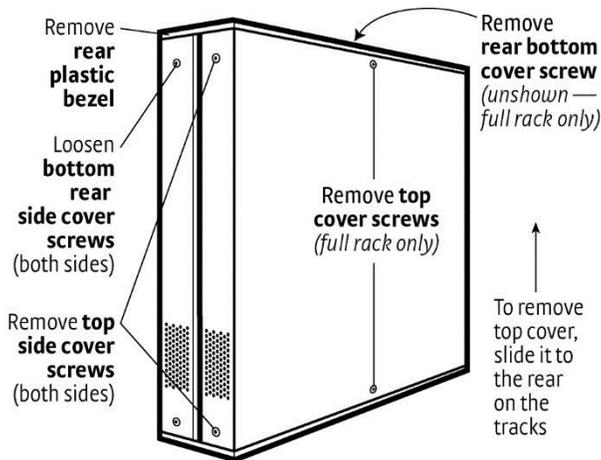

Figure 1. Cover screws
3. Stand the unit on its face. Use the hex key to remove the 4 screws (2 on each side) of the top cover. Loosen the 2 rear bottom screws (Figure 1).
4. **Full rack only:** use a small Phillips screwdriver to remove the 2 top cover screws and 1 rear bottom screw (Figure 1).